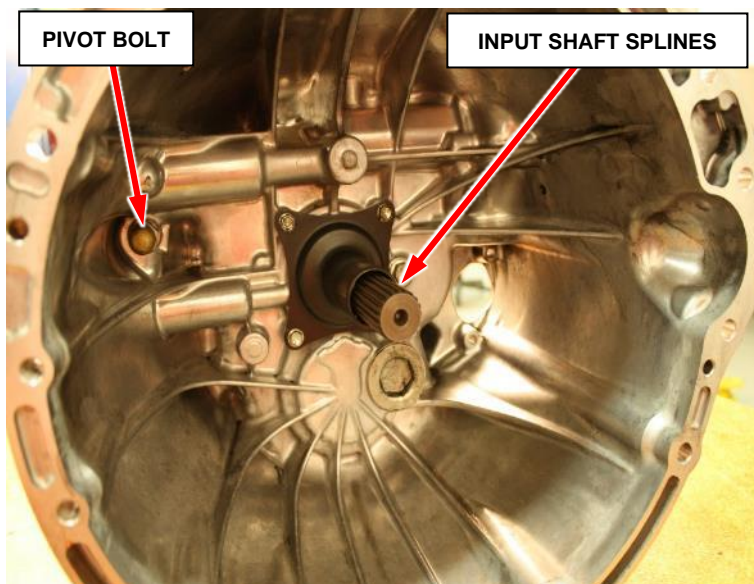

Figure 17 – Pivot Bolt
55. Install the **NEW** Pivot bolt and tighten to 25N·m (18ft. lbs.) (Figure 17).
56. Apply a very light coat of high temperature wheel bearing grease to the input shaft splines (0.3 grams) (Figure 17).